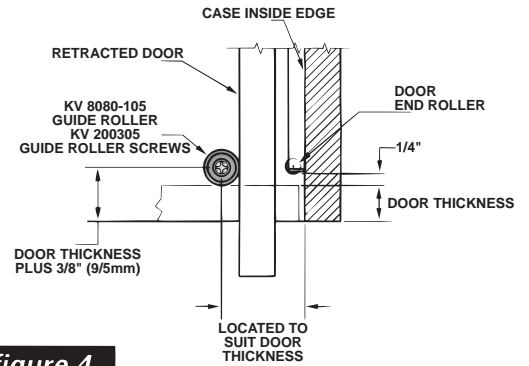

figure 4
- Slides must also be set back from the front of the case a distance equal to the door thickness plus 1/4", as shown (figure 4). Measure this dimension from the edge of the slide roller.
- Proper operation requires precise roller location - drill pilot hole for screw located from case edges as shown (**figure 4**).